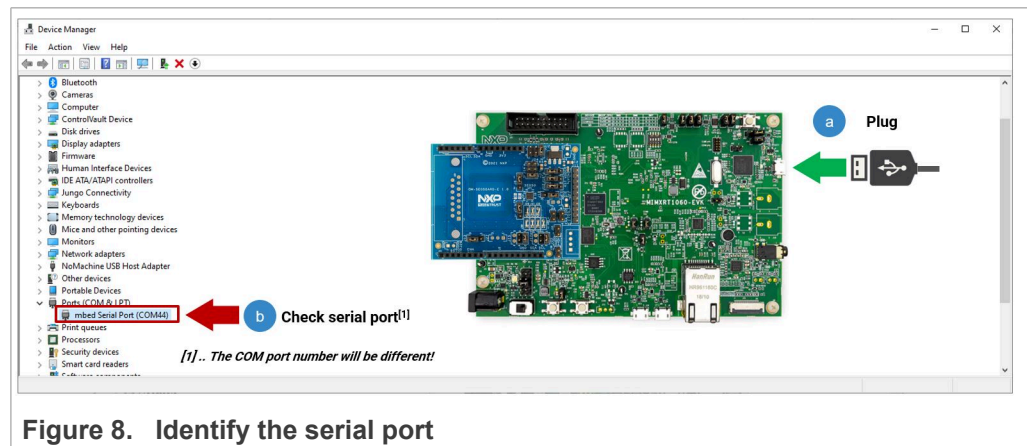

Figure 8. Identify the serial port
5. Check that your laptop recognizes the i.MX RT1060/1170 board by following the steps shown in Figure 8: